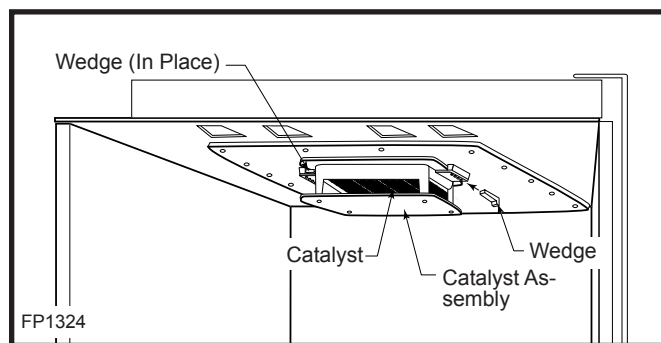

Fig. 31 Carefully tap out the wedges, then slide the Catalyst Assembly out of fireplace.
2. Tap the left and right wedges back and remove. (Fig. 31)